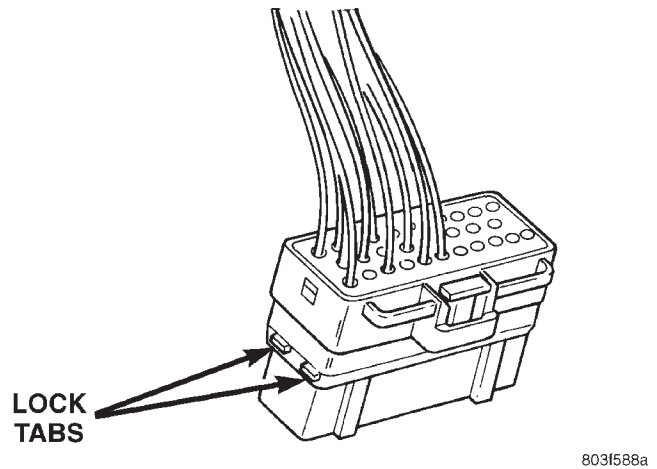

Fig. 12 Thomas and Betts Connector Lock Release Tabs
- (2) Disconnect the connector from its mating half/component.
- (3) Push in the two lock tabs on the side of the connector (Fig. 12).